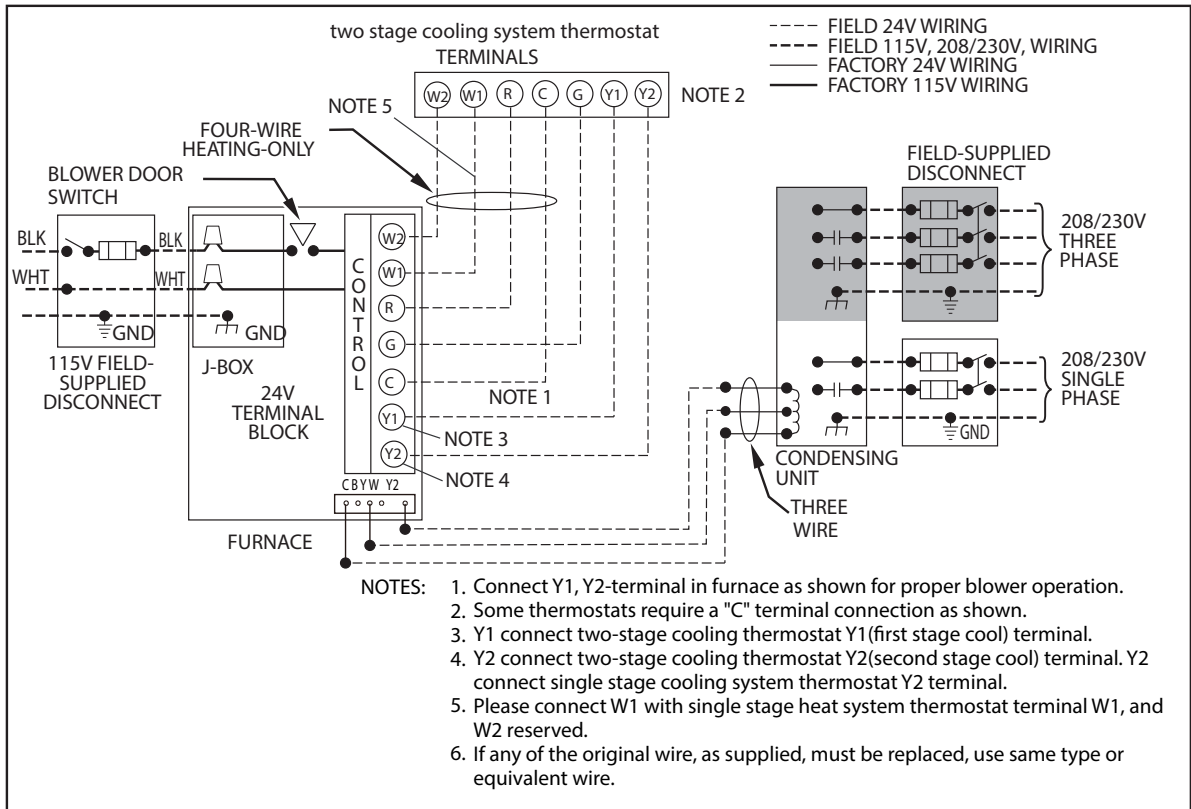

Fig. 9-3 Heating and Cooling Application Wiring Diagram with I-Stage Thermostat
5. Connect line voltage leads as shown in Fig. 9-3.
1. Maintain 115V wiring and ground. Improper polarity will result in rapid flashing LED and no furnace operation. (See Fig. 9-3)
2. Make thermostat wire connections at the 24-V terminal block on the furnace control. Failure to make proper connections will result in improper operation. (See Fig. 9-3.)
(See Fig. 9-3 for thermostat connections.)